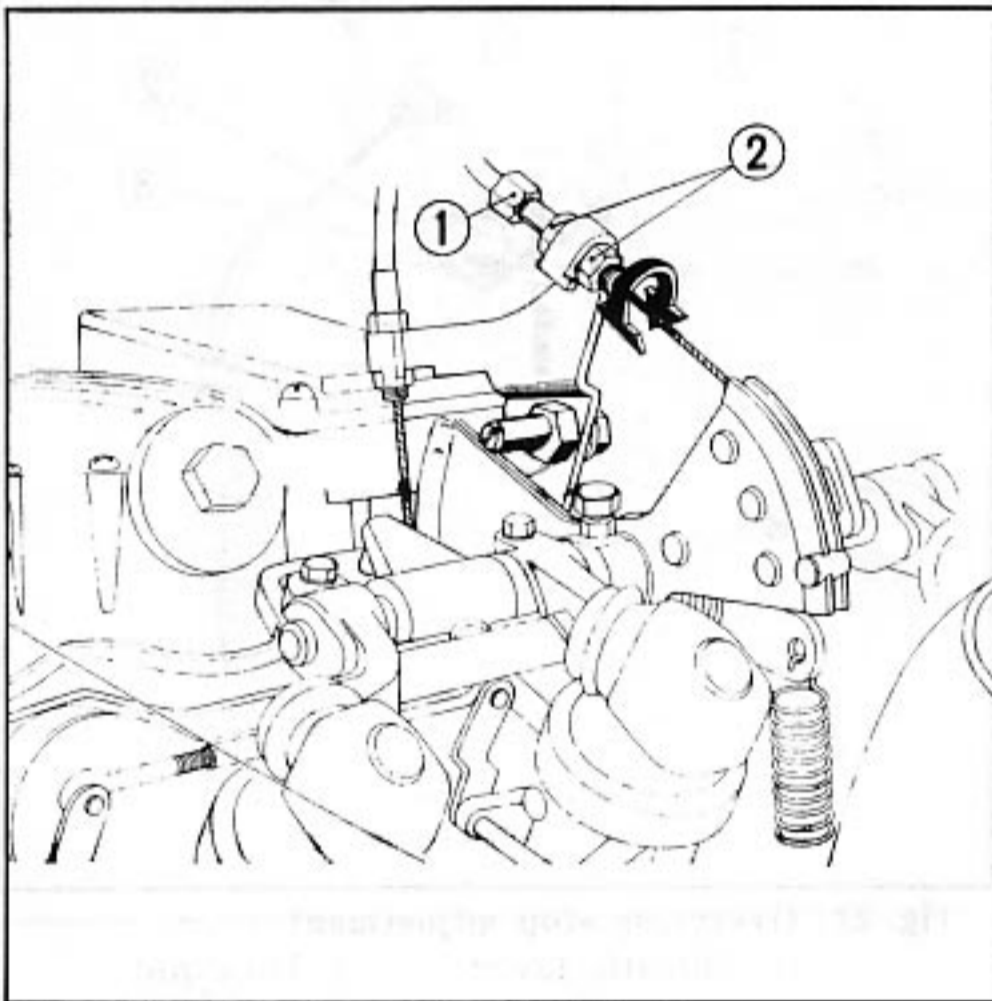

Fig. 25 Throttle cable adjustment
2. Turn the adjuster nut at the carburetor end to provide a **0.12–0.16 in. (3–4 mm)** play at the grip flange. (Fig. 25)